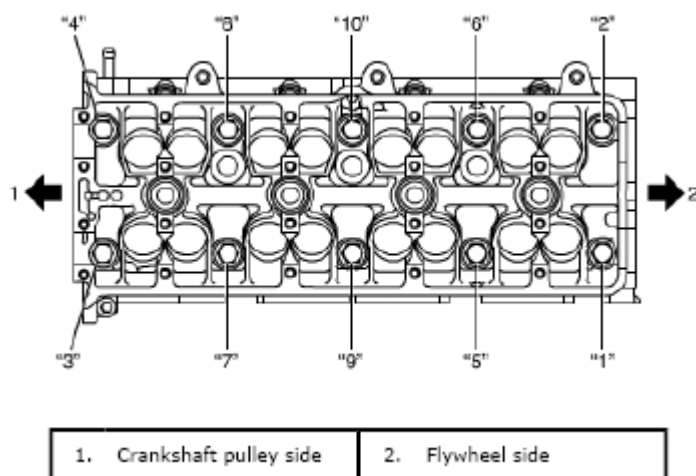

Fig. 114: Identifying Loosening Sequence Of Cylinder Head Bolt
- c. Loosen cylinder head bolts (M10) until tightening torque is reduced to 0 according to numerical order in **Fig. 114**.